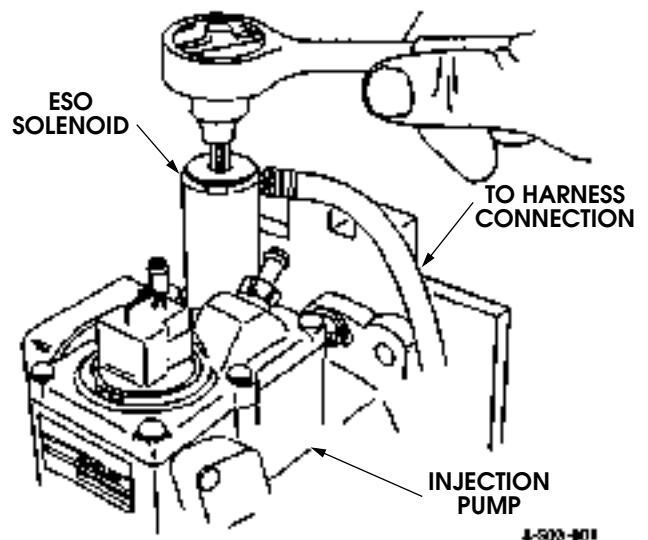

Figure 3-13: ESO Solenoid Replacement
1. Disconnect the electrical connector from the ESO solenoid (Figure 3-13).